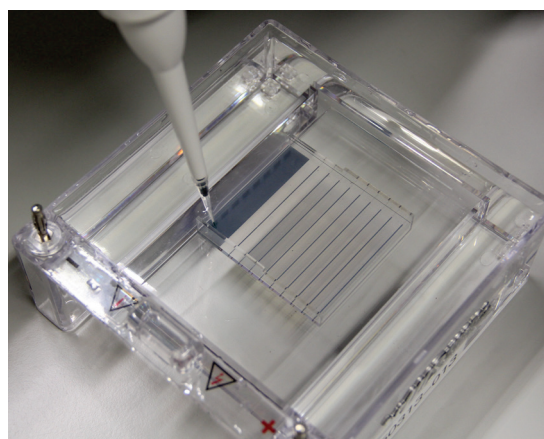

Fig. 6
6. Using a P10 micropipette and a sterile tip, carefully* load 4 μ l dye-PCR product mixture into the well of the gel (Fig. 6) according to the layout shown in Table 5; i.e., load 4 μ l dye-NC mixture into Well 2.